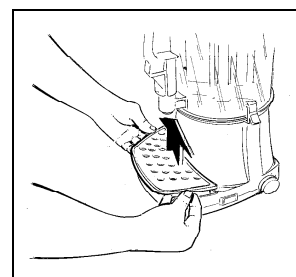

Fig. 13
- To remove the drip tray (P) lift up it and pull it in the direction of the arrows as shown in fig. 13.